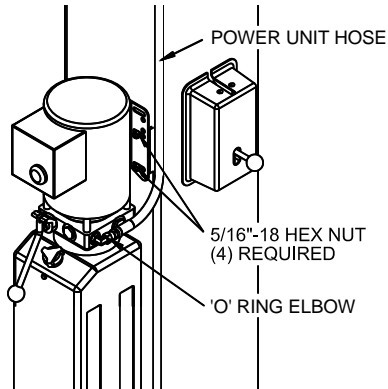

Fig 7 – Power Unit Mounting
23) Mount Power Unit to power column as shown in Fig 7. The mounting hardware, (4) 5/16"-18 hex nuts, are pre-installed on power unit mounting bracket.
26) Thread 9/16-18 O-ring elbow (*in hardware box*) into power unit. Attach free end of power unit hose to elbow. See Fig 7. CAUTION do not damage rubber O-ring.